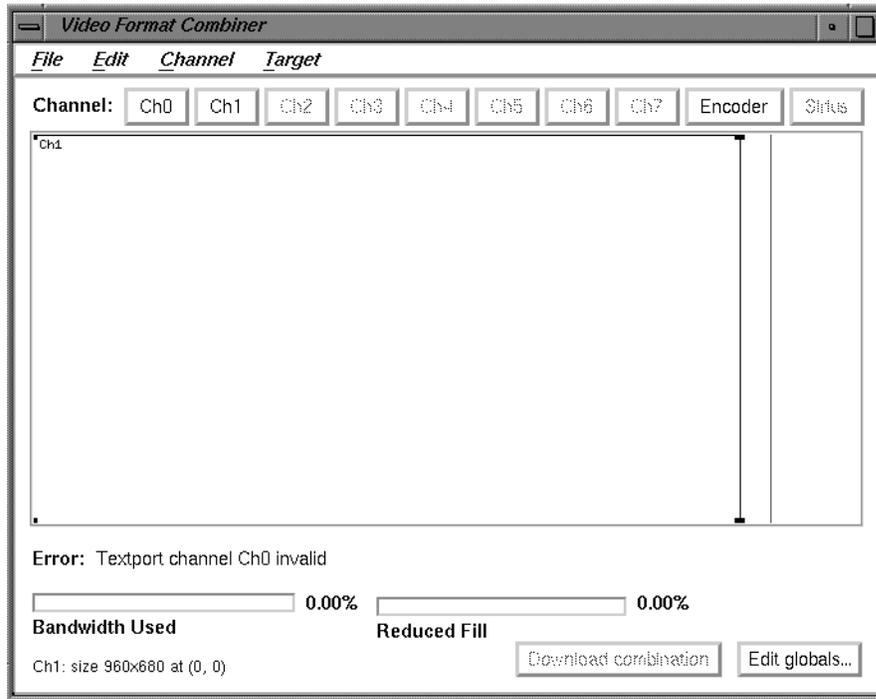

Figure A-6 Textport Error Message on the Main Window
5. Find and double-click the *960x680_60.vfo* file format. An error message appears at the lower left corner of the Combiner's main window, as shown in Figure A-6: "Textport channel Ch0 invalid."